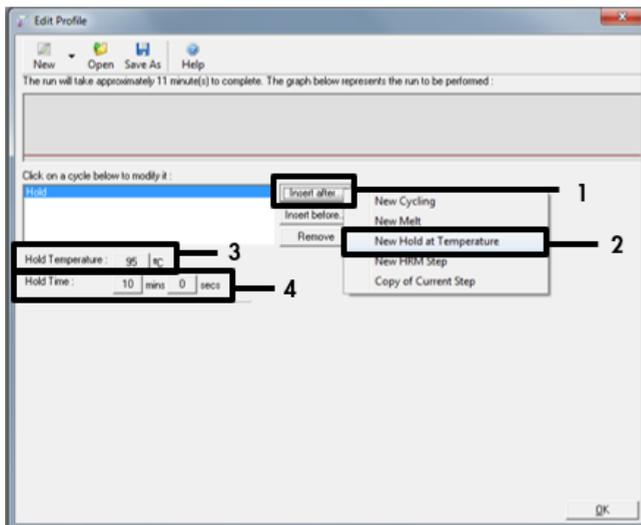

Figure 13. Edit Profile. 1: “Insert after”. 2: “New Hold at Temperature”. 3: “Hold Temperature”. 4: “Hold Time”.
18. In the “Edit Profile” window, click **Insert after > New Hold at Temperature** (Figure 13).